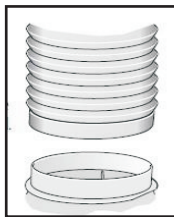

Fig. 5
Connection to exhaust air pipe (Fig. 5)
- Attach $\varnothing 150\text{mm}$ pipe directly to the air outlet and secure appropriately (Fig. 5).